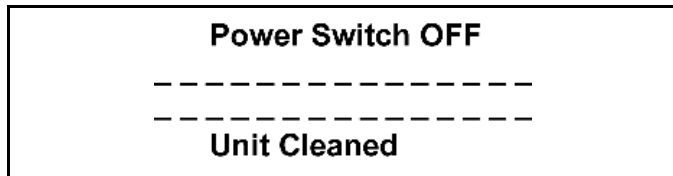

Figure 2-126
6. After 60 seconds or selecting a key to abort the safety timeout the Power Switch OFF message will appear on the screen. (See Figure 2-126.)